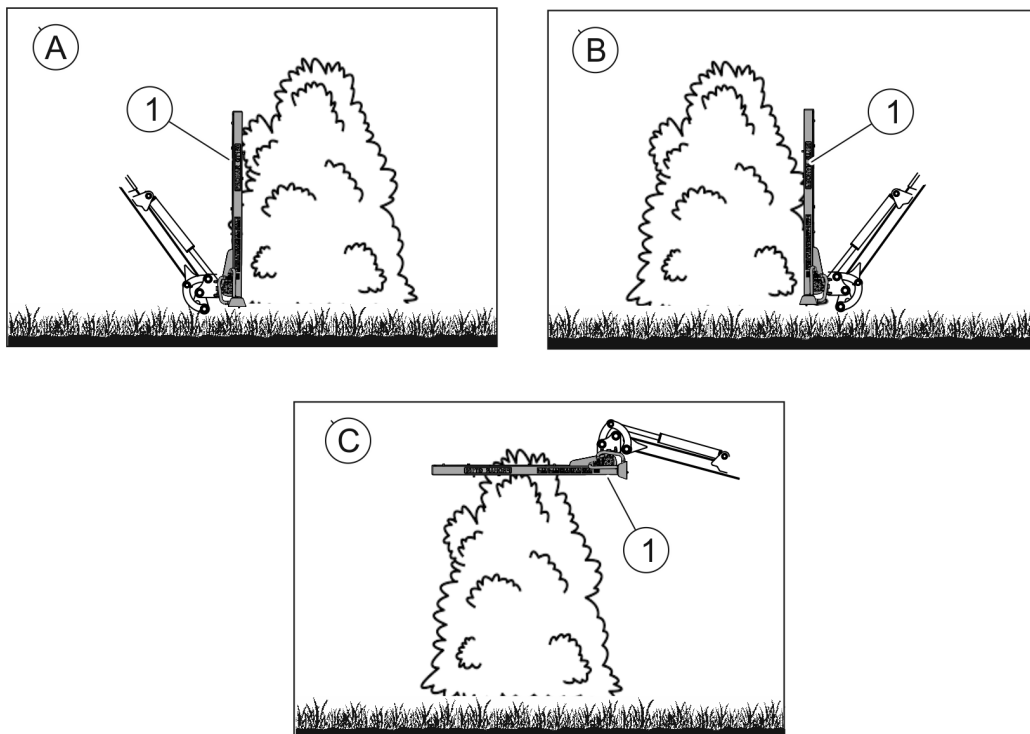

FIGURE 4.3 Examples of the trimmer working positions on the multifunction arm during hedge trimming.
- Control the relevant hydraulic circuits and position the multifunction arm so as to place the trimmer in the working area (FIGURE 4.3)
Follow the proper sequence for hedge trimming. First, cut the side of the hedge on one side (A) (FIGURE 4.3) and then, cut the side of the hedge on the opposite side (B). Finally, cut the top part of the hedge (C) to a required height.